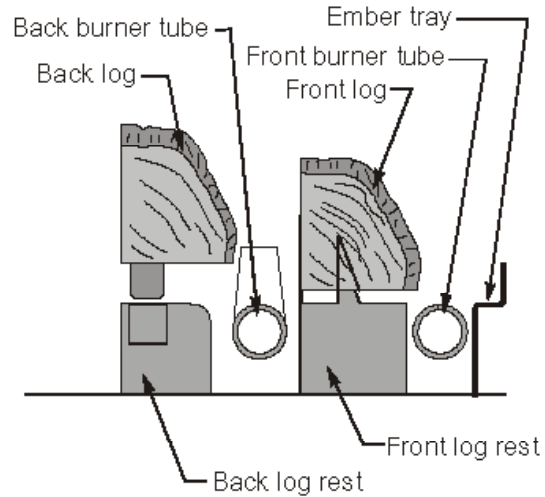

Figure 8a. Positioning for the front and back logs.
2. Place the Back log onto the back log rest as shown below in figure 8a. The log has lip on the bottom which fits into the slot on the log rest.
3. Place the Front log onto the front log rest as shown in figure 8a. Center the log from side to side, and push it against the back of the log rest. Carefully push the log onto the metal spikes on the log rest.